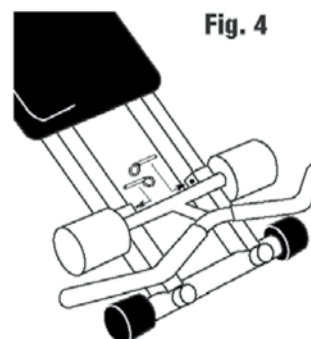

Fig. 4
3. Insert the 2 Medium Hitch Pins through the holes on the Wing Accessory brackets and the hole on the rails, as shown in Figure 4.